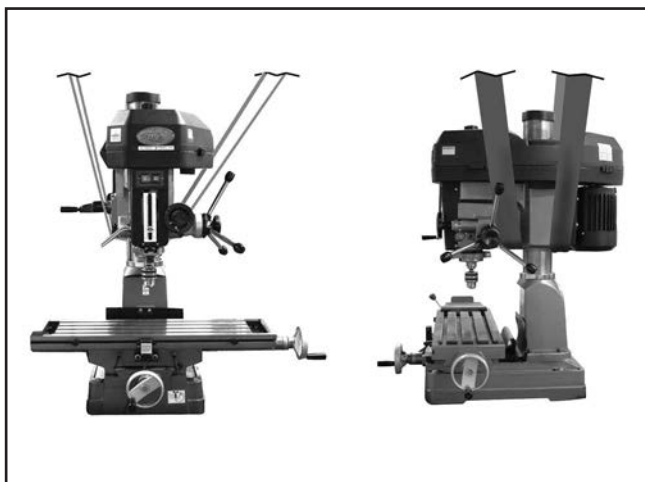

Figure 21. Typical lifting strap position.
3. Place lifting straps under the head of the machine, as shown in **Figure 21**, then connect them to a forklift. Be sure that the straps connect to the forklift far enough apart that they are not putting pressure on the belt cover.